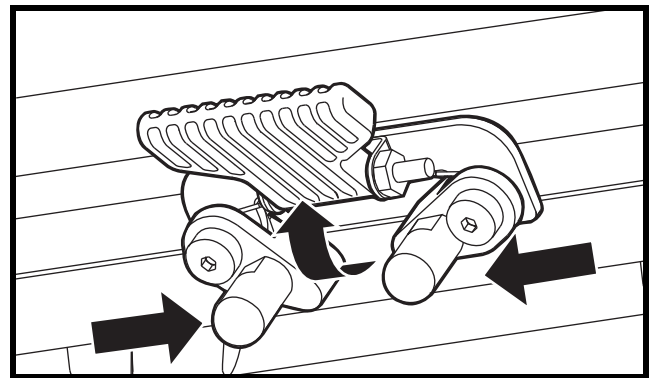

Figure 15. Seat Latch Safety
5. Flip up the seat latch safety to release the seat from the front trapeze bar. See figure 15.